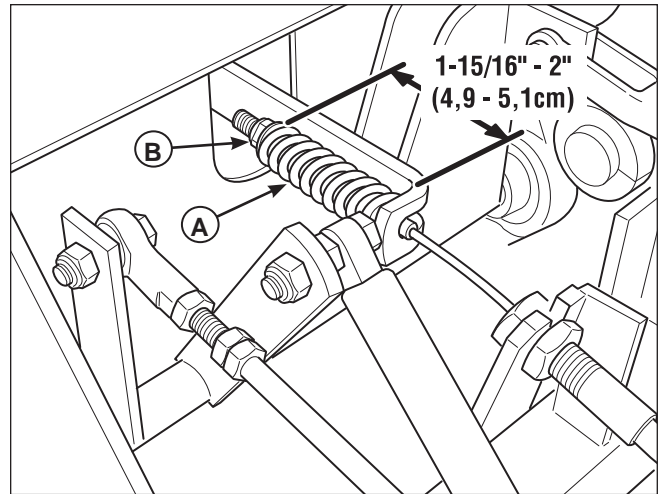

Figure 37. Parking Brake Adjustment
3. Locate the brake spring (**A**, **Figure 37**).